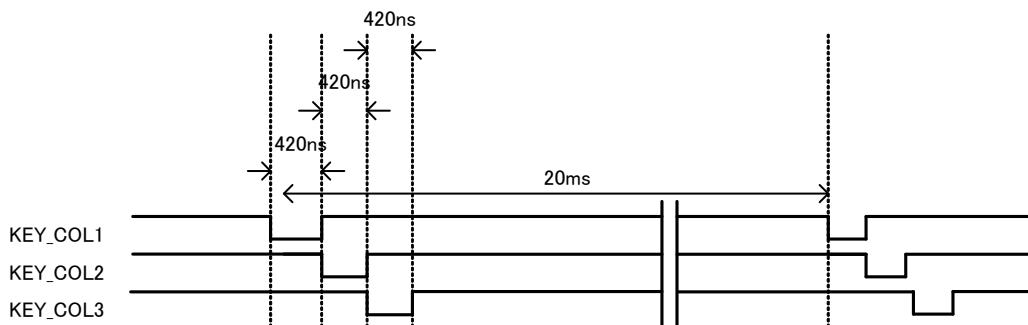

Figure VI.2.1 KEY SCAN Waveform
- (1) KEY_COL1 to 3 output waveforms at timing as shown in Figure VI.2.1.
- (2) By pressing KEY switch, KEY_ROW 1 to 4 are set to L at timing when KEY_COL 1 to 3 are L.
- (3) When detecting L input from KEY_ROW 1 to 4 three times, the master judges that KEY has been pressed. Then, the master starts the KEY operation.
- (3) When detecting L input from KEY_ROW 1 to 4 three times, the master judges that KEY has been pressed. Then, the master starts judging status of held KEY.
- (4) When pressed KEY's decision (L input from KEY_ROW 1 to 4 three times) is detected consecutive 15 times, the master judges that KEY Mode is Hold Mode.
- (5) When KEY release is detected in judging status of hold KEY, the master judges that KEY Mode is Single Mode. Then, the master starts the KEY operation.
- (6) When Hold Mode is detected, the master starts the KEY operation in Hold Mode. When KEY release is detected in Hold Mode, the master finish the KEY operation.